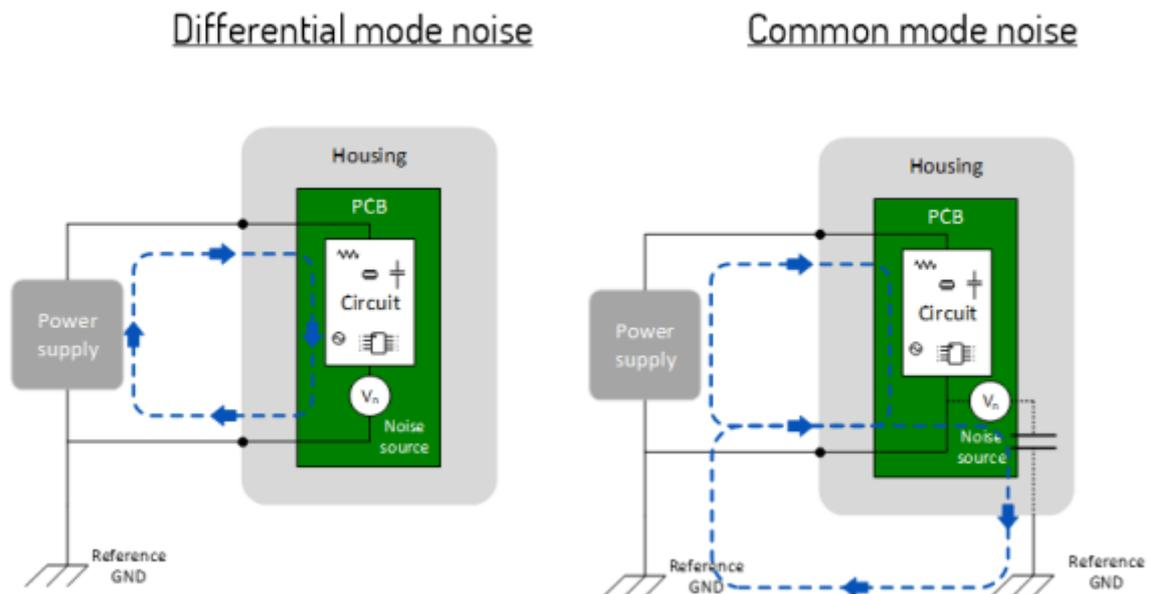

Figure 19. Modal definition of interference: (a) DM. (b) CM.
- The differential-mode noise (DM), defined as the noise that appears across power supply lines and is in series with the power supply line, and the noise current flows in the same direction as the power supply current (Figure 19.a).
- The common-mode noise (CM), defined as the noise current that has leaked via a stray capacitance through ground and returns to the power supply line (Figure 19.b).